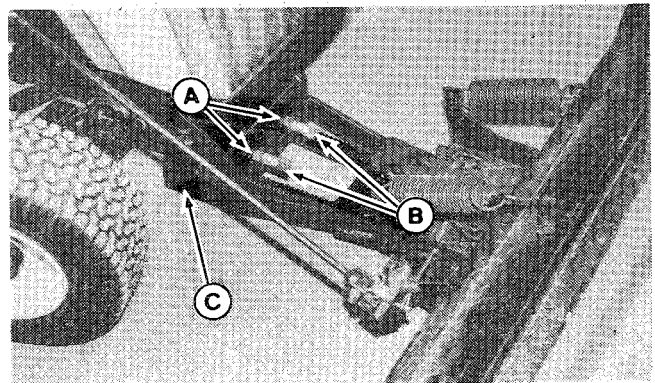

Figure 11.
2. At transport position, the rear of the dozer hitch (C, figure 11) should not touch tractor upstops. To check, with blade in raised position, raise up on blade by hand. You should be able to raise blade one to two inches before dozer hitch touches tractor upstops. Adjustment is made by loosening the two nuts (A, figure 11), turning the bolts (B) equal amounts, then tightening nuts (A) when adjustment is correct.